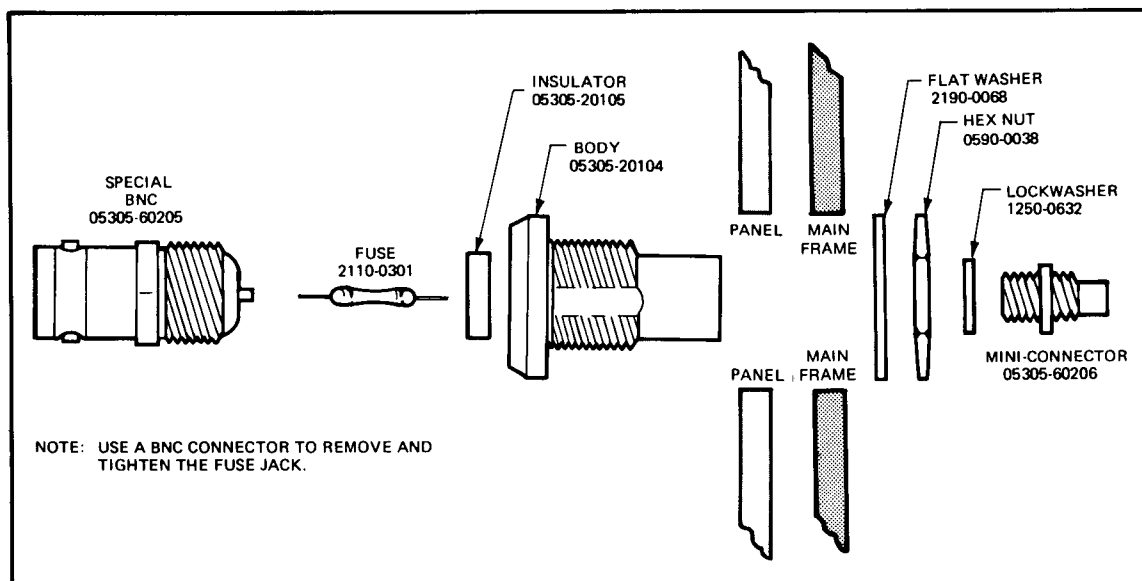

Figure 2-4. Details of Input Connector J1 and Fuse Mounting
- d. Install Special Input BNC (provided) through the lower hole of the Channel C front panel (P/N 05335-00008) and the corresponding hole in the main frame, and secure the special BNC and panel with hex nut, P/N 0590-0038, to the frame as illustrated in *Figure 2-4*.
2-35. When Option 030 C Channel is installed, the operator may be required to replace the input BNC fuse. This is a 1/8A fuse (HP Part No. 2110-0301) which is located within the INPUT C BNC connector (see *Figure 2-4* for details). To replace the fuse, disconnect the power cord, unscrew the special BNC barrel (P/N 05305-60205) and, with needle-nose pliers, remove and replace the fuse. Reinstall the BNC barrel, and tighten using a BNC cable connector. Be careful not to overtighten.